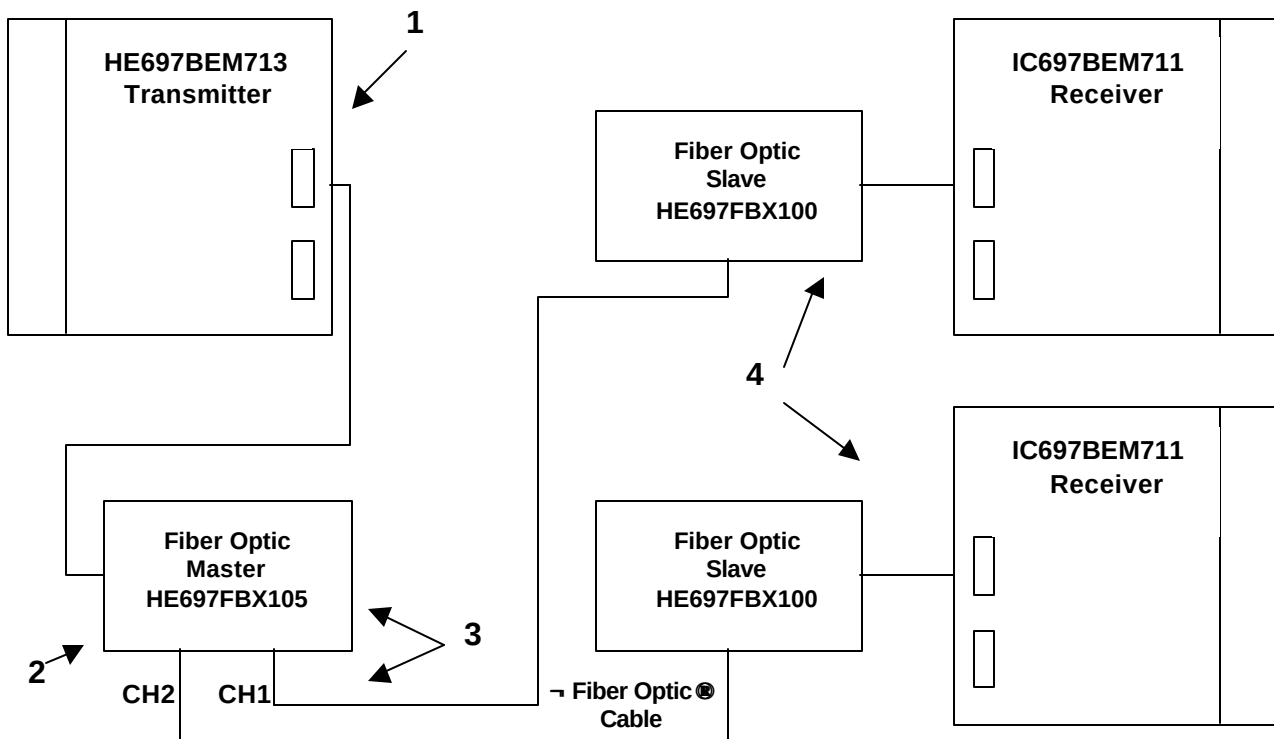

Figure 1.2 - Overview
1.3 Overview of Fiber Optic Expansion Interface Modules (See Figure 1.2)